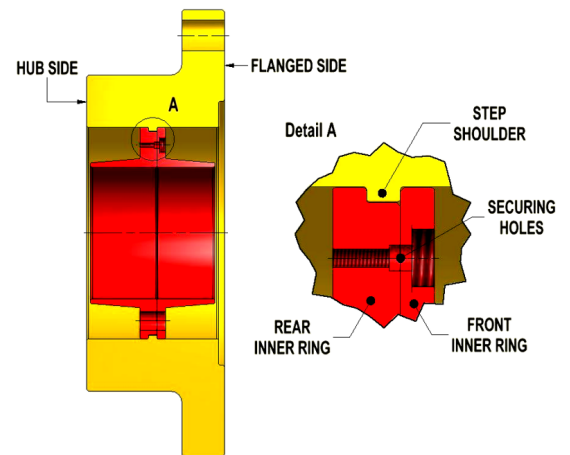

Fig. 8 Re-assembling of inner rings of Locking Assembly MAV 7161
2. Insert rear inner ring into flange bore from hub side, until it bottoms against step shoulder in flange's bore (see Figure 8).
3. Insert front inner ring into flange bore from flanged side until it bottoms against step shoulder in flange's bore and face of rear inner ring (see Figure 8).